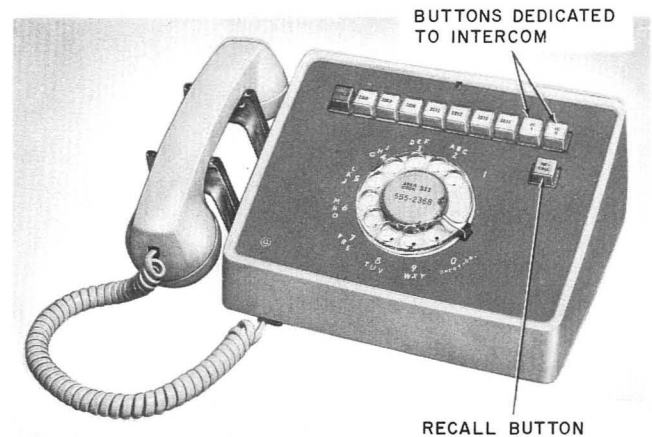

Fig. 2—830DM (MD) or 830FM Telephone Set
- 10-button [9-line pickup and hold on all sets except the 830DM (MD), 830FM, 2830DM (MD), and 2830FM]
- 11-button [7-line pickup, hold, recall, and 2 intercom on 830DM (MD), 830FM, 2830DM (MD) and 2830FM only, see Fig. 2]